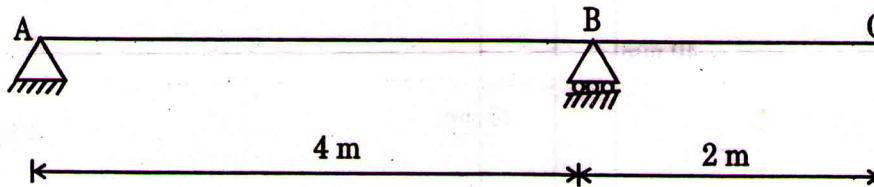

Fig. 1
- (f) Give the equivalent conjugate beam for the beam shown in Fig. 1.